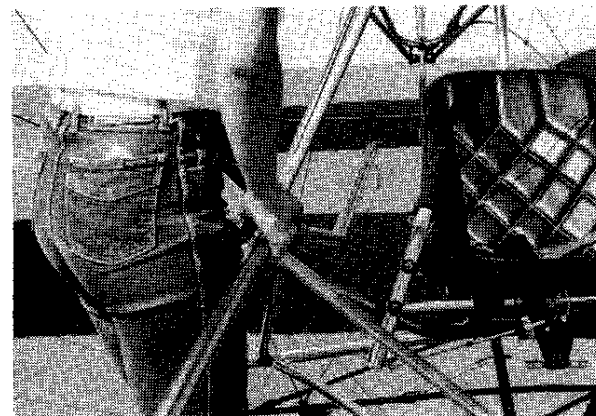

Figure 2.55
62. Route elevator push-pull tube through the loop of the push-pull safety cable. **Figure 2.55**